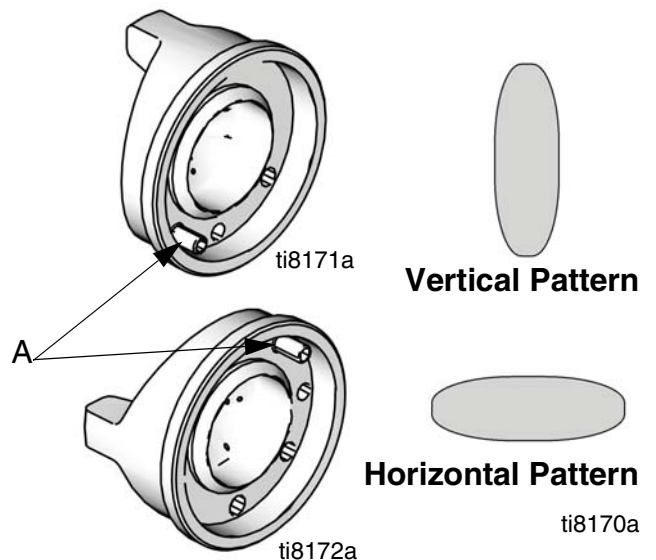

FIG. 9: Position Air Cap
Air caps are factory-set with the alignment pin (A) set to a vertical spray pattern. To change the air cap to a horizontal spray pattern, use a 1/6 in. hex wrench to unscrew the alignment pin (A) and relocate it to the horizontal spray pattern hole. When relocating the pin use low strength thread locker. Torque to 1.5-2.5 in-lb (0.2-0.3 N·m). **Do not overtighten.** Refer to FIG. 9.